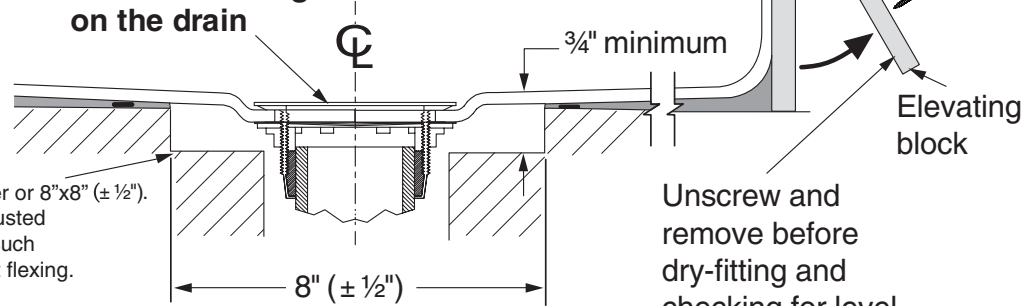

Figure 1
- 2 **DRY-FIT SHOWER:** Make sure you remove the elevating blocks shown in Figure 1 before proceeding. Make sure that the drain hole is centered in the 8"x8"x3/4" box-out and that it is in the correct location. Set shower in the pocket and use a level to ensure the unit is level and positioned correctly. If the unit is out of level, re-check the subfloor to ensure that it meets the required specifications.